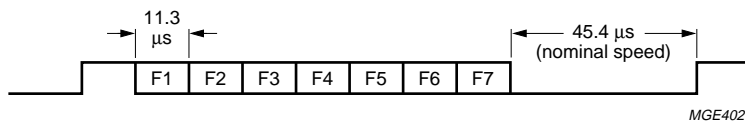

Fig.18 C-flag output timing.
15.4 C-flag timing (see Fig.18)